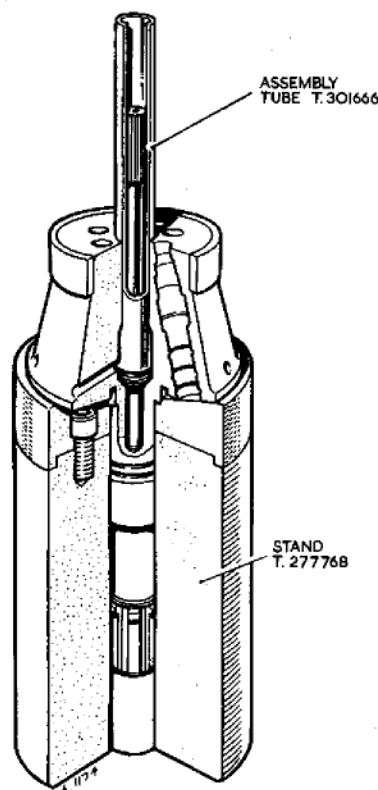

Fig. 2. Locking the rotor quillshaft
5. Invert the rotor and mount it on the stand T 277768, fig. 2. Place a washer, sealing ring, second washer and circlip over the shaft. Position the hollow drift T 301666 over the shaft and tap the drift until the circlip engages in the recess.